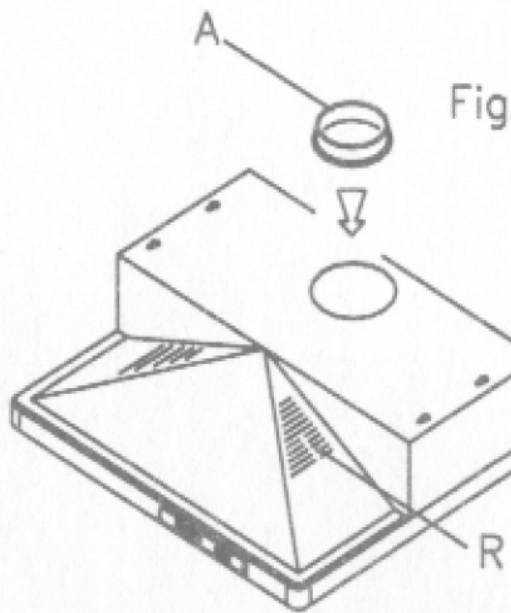

Fig. 3
PLEASE NOTE THAT YOU WILL HAVE TO DECIDE BEFORE INSTALLING YOUR COOKER HOOD THAT YOU CAN ADAPT IT AS AN EXTRACTION FAN. IF THIS IS THE CASE, YOU'LL NEED TO ATTACH A SPIGOT ('A' in Fig.3 at bottom of next page) AND DUCTING. YOU'LL ALSO NEED TO HAVE PREPARED YOUR WALL EXHAUST SYSTEM PROPERLY
- 6) Connect the discharge pipe to the collar 'A' (see Figure 3, below).
- 6) Connect the ducting to the collar (spigot) 'A' (Fig. 3).